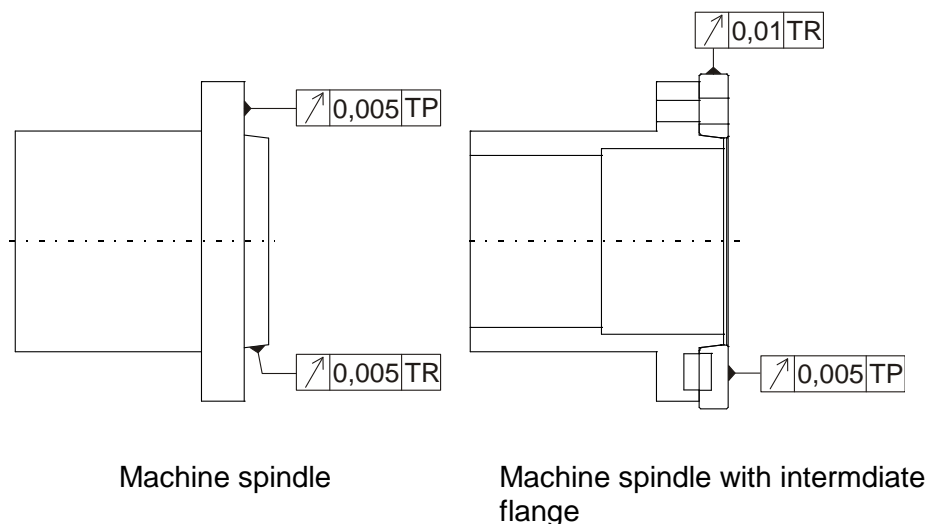

Fig. 3-2: Checking the true-running
- Step 2** Remove the cover (1) from the chuck and insert the associated draw bolt (5).
- Step 3** Screw the bolt lock (6) onto the draw bolt. A clearance of 0.1 mm must be set between the contact surfaces of the bolt lock (6) and the chuck!
- Step 4** Secure the bolt lock (6) by tightening the threaded pin on the side.
- Step 5** Bring the draw pipe (2) in the most forward position and screw the adaptor (3) into the draw pipe after the thread has preventively been cleaned with copper paste to avoid rusting or galling
- Step 6** Mount the intermediate flange (4) on the spindle (in case the chuck is not directly screwed onto the spindle) and check the true-running according to Fig. 3-2.